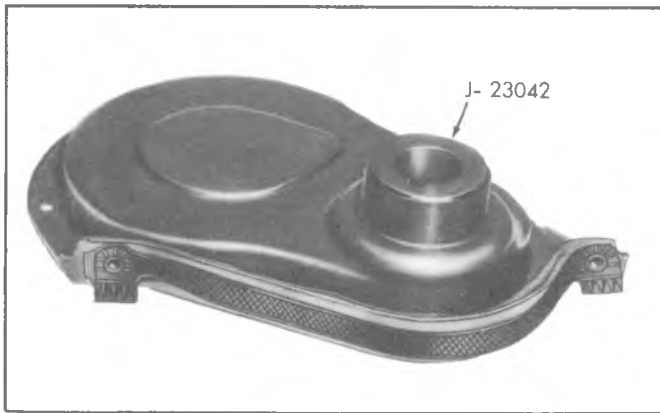

Fig. 6A-34--J-23042 Centering Tool In Cover
2. Cut tabs from the new oil pan front seal (fig. 6A-32) use a sharp instrument to ensure a clean cut.